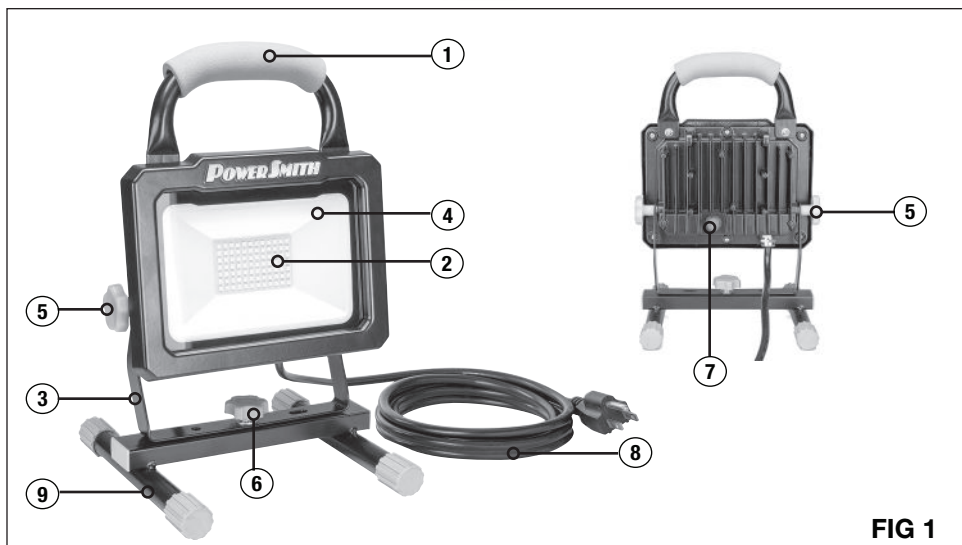

FIG 1
SEE FIG 1
1. Place the stand (9) on a flat surface.
2. Position the U-Shaped bracket (3) of the work light head against the stand (9) as shown in FIG 1.
3. Use the locking knob (6), flat washer and spring washer to secure the work light head on the stand.
SE RÉFÉRER À LA FIGURE 1